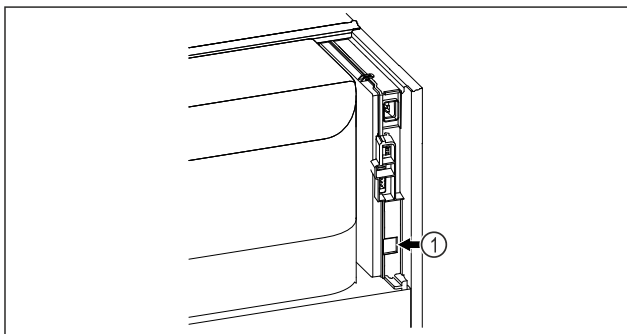

Fig. 48
- SmartModule Fig. 48 (1) is in use.